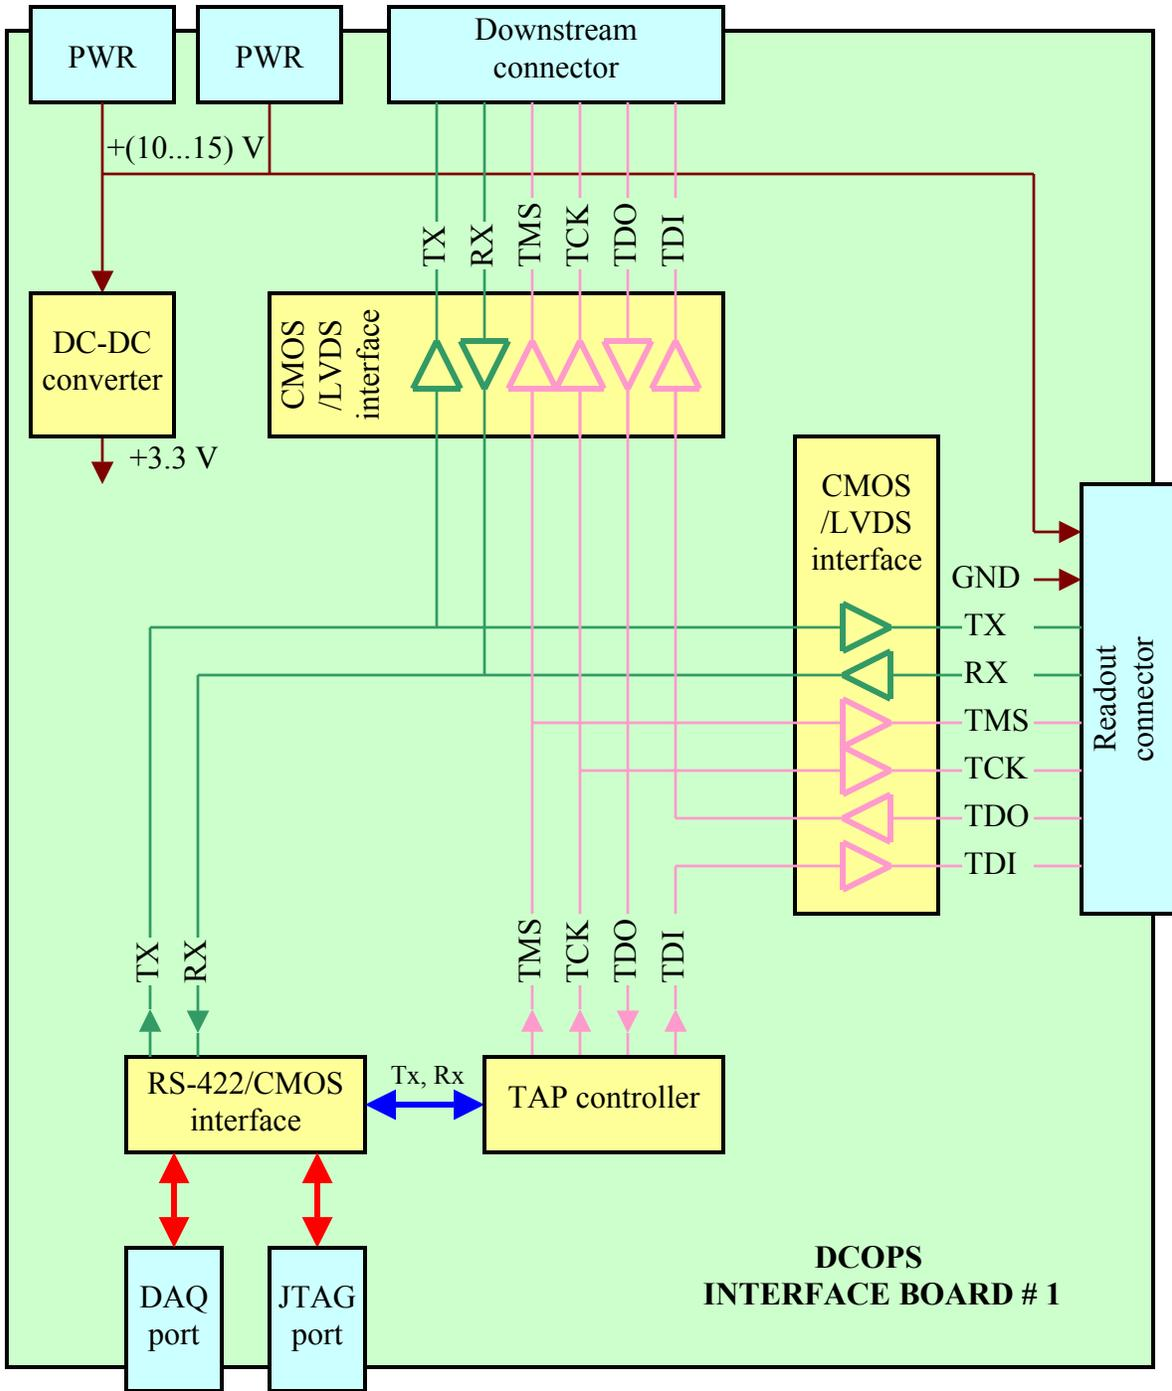

Fig. 4. Diagram of the DCOPS interface board # 1
Thus, three kinds of the interface boards should exist: the first one (# 1), middle (# 2 – 5), and the last (# 6). All these kinds of the interface boards are shown in Fig. 4 – 6.
- ◇ LVDS/CMOS interface (see Fig. 4, 5)